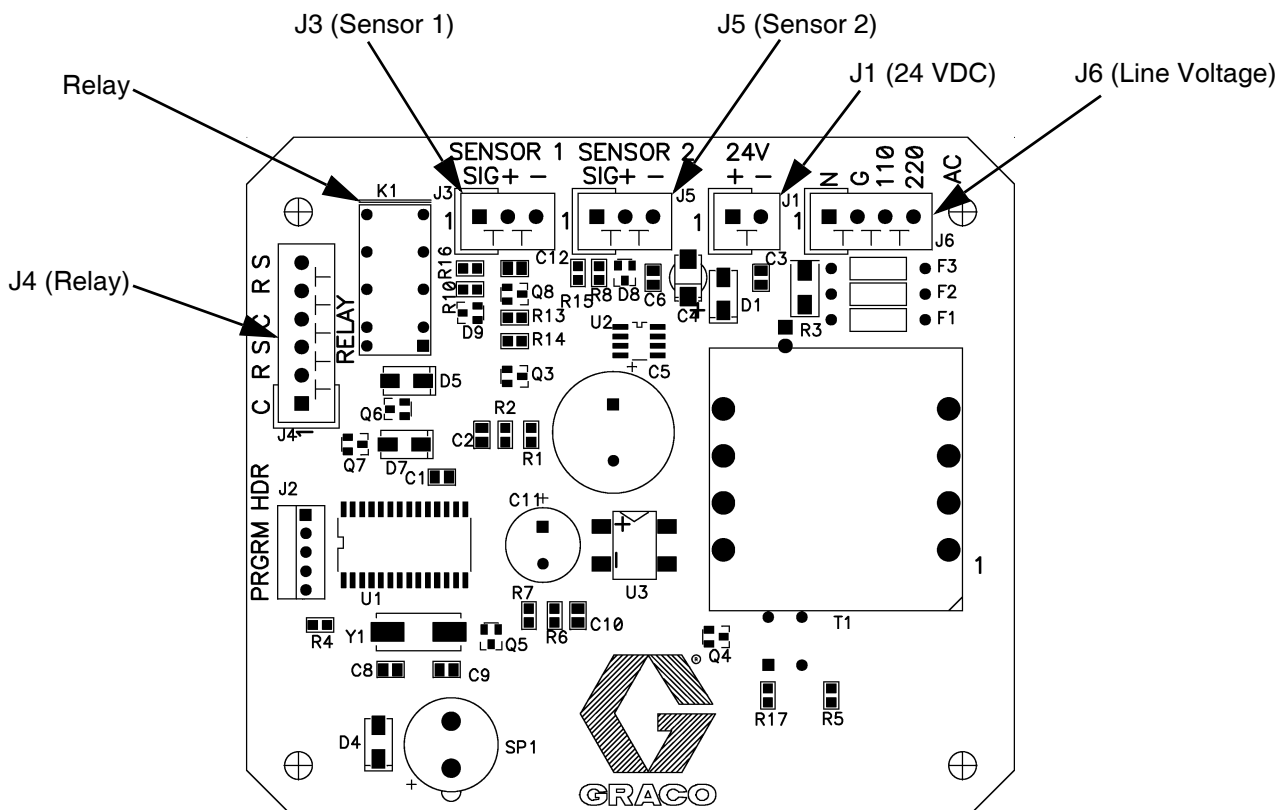

FIG. 5. Circuit Board Terminal Connections
The relay has two sets of contacts that can be used to indicate an error by turning off a valve, lighting a light, etc. The contacts are located at J4 on the circuit board. See FIG. 5.
7. Plug the sensor terminals to the respective connectors on the circuit board (located on the inside of the cover). See FIG. 5.
AC power is connected to J6 on the circuit board. The ground connection is the pin between the pins N and 110. See FIG. 5.
- To operate from 24 VDC, connect to J1. J1 is marked for positive and negative polarity. Disconnect any power to the AC connector J6 if the system is to be powered by 24 VDC. See FIG. 5.
9. Connect an external ACPRH, air valve, etc. to the internal relay (CRS), if desired, using J4. See FIG. 5.
- R is Reset, which is connected to Common during normal operation. (NO)
- S is Set, which is connected to Common when an error is detected. (NC)
10. Reinstall the cover (D) using the four screws (C).
- When the Leak Detector is powered by 230 VAC or 110 VAC, ground the Leak Detector by connecting the ground wire to terminal G on terminal J6. See FIG. 5.